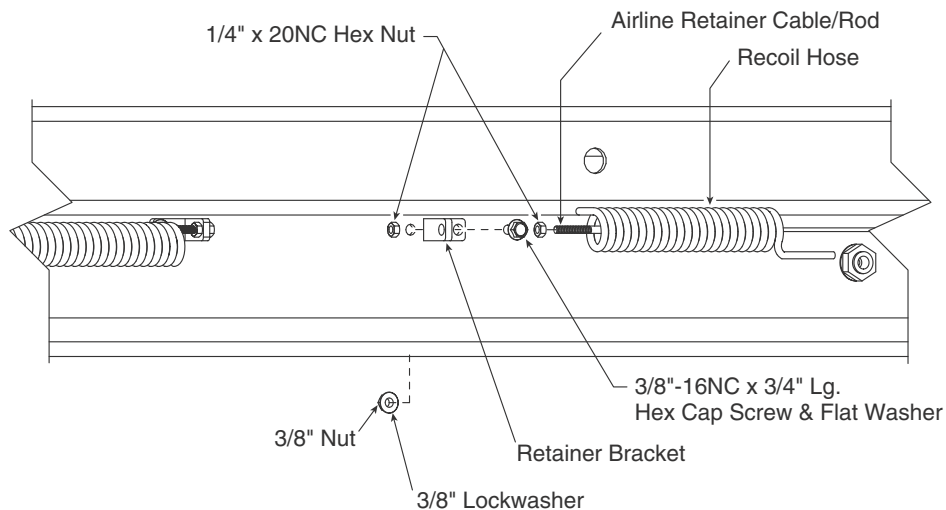

Fig. 31
- A. Attach retainer brackets for the rear recoil hose with 3/8"-16NC x 3/4" Lg. hex cap screw, flat washer, lock washer and nut, Fig. 31.
- B. Insert retainer cable through coils of recoil hose, Fig. 31. Run a 1/4"-20NC hex nut down onto each end of retainer cable. Insert each end of cable into retainer brackets. Secure each cable end with another 1/4"-20NC hex nut. Tighten jam nuts, Fig. 31.
- A. Insert retainer cable through coils of recoil hose, Fig. 31. Connect one end of recoil hose to coupling welded on rolling jack, Fig. 34 and 35.